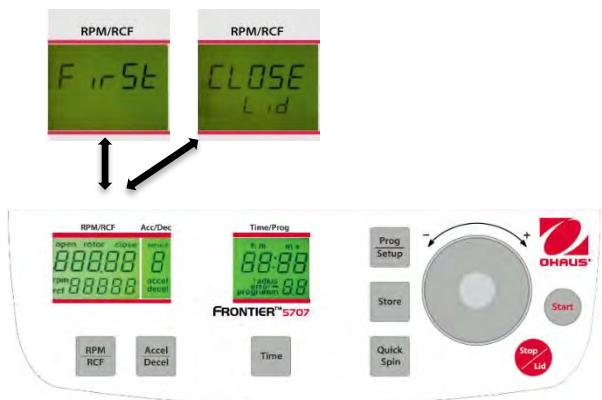
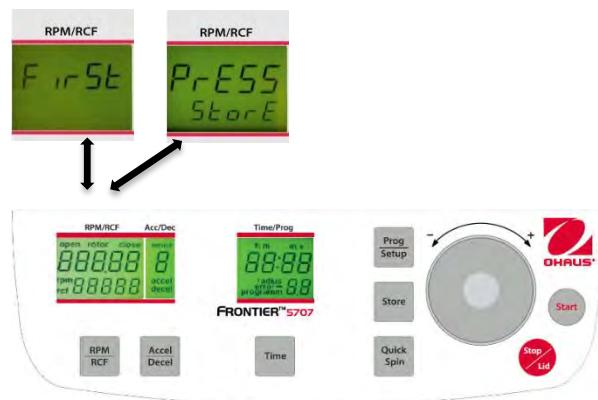

Figure. 21
Figure. 22
Close the lid of the centrifuge. Now proceed as described previously to set all important run parameters. If the lid isn't closed when storing the program, in the display "**RPM/RCF**" (A-1), the words "**FirSt**" and "**CLOSE Lid**" (See figure 21) flashes alternately. If you want to start the run without storing the program, in the display "**RPM/RCF**" (A-1), the words "**FirSt**" and "**PrESS StoreE**" (See figure 22) flashes alternately.
For adaption of data press the key "Store" (2) (refer to figures 21 and 22) for approx. 1 second. If the program is stored correctly, the word "StorE" appears in the display "RPM/RCF" (A-1). As a result, the word "programm" (M10) disappears.